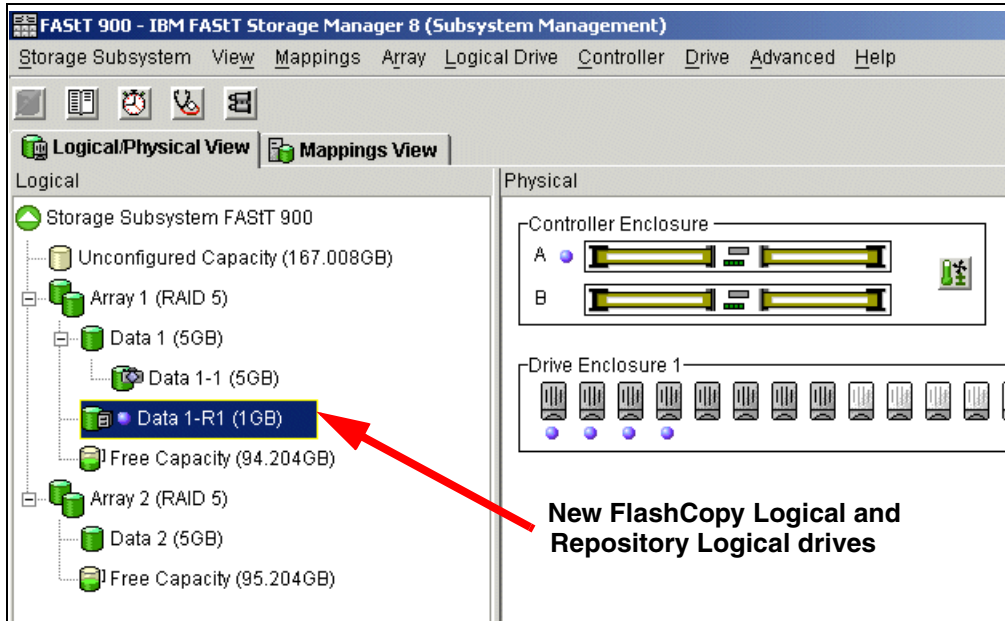

Figure 7-16 New FlashCopy volume in subsystem management
- v. You can now view the newly created FlashCopy logical drive and its associated repository logical drive from the Subsystem Management window. See Figure 7-16 on page 211.